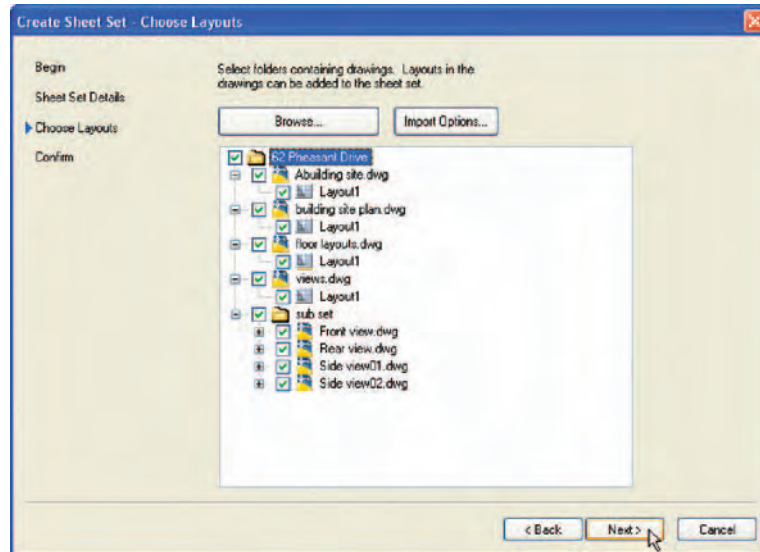
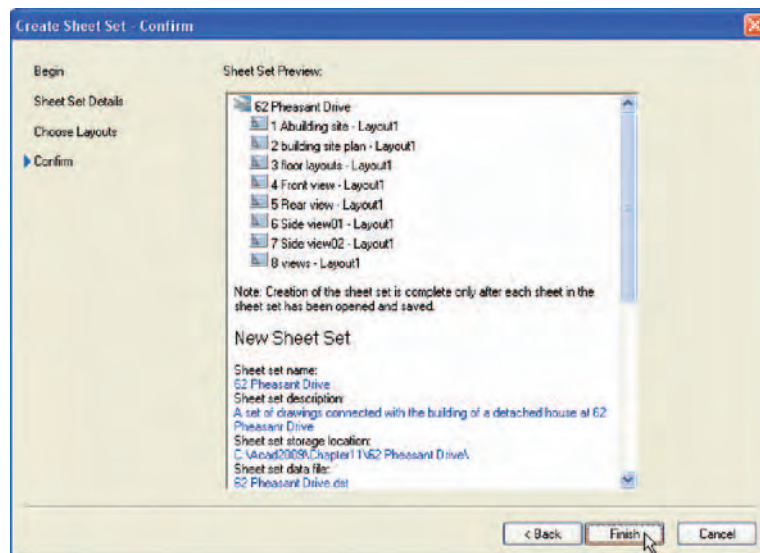
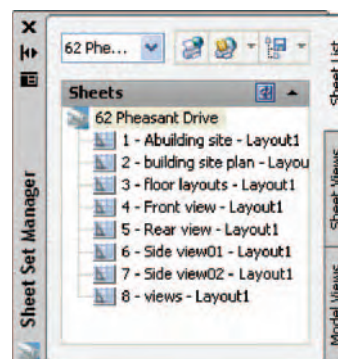

Fig. 11.7 The Choose Layouts Dialog
Fig. 11.8 The Confirm dialog
Fig. 11.9 The Sheet Manager palette for 62 Pheasant Drive
4. Enter details as shown in the dialog as shown in Fig. 11.6. Then click the **Next** button to bring the **Choose Layouts** dialog to screen (Fig. 11.7).
5. Click its **Browse** button and from the **Browse for Folder** list which comes to screen, pick the directory **62 Pheasant Drive**. Click the **OK** button and the drawings held in the directory appears in the **Choose Layouts** dialog (Fig. 11.7). If satisfied the list is correct, click the **Next** button. A **Confirm** dialog appears (Fig. 11.8). If satisfied click the **Finish** button and the **Sheet Set Manager** palette appears, showing the drawings which will be in the **62 Pheasant Drive** sheet set (Fig. 11.9).
1. The eight drawings in the sheet set are shown in Fig. 11.9. If any of the drawings in the sheet set are subsequently amended or changed, when the drawings is opened again from the **62 Pheasant Drive Sheet Manager** palette, the drawing will include any changes or amendments.